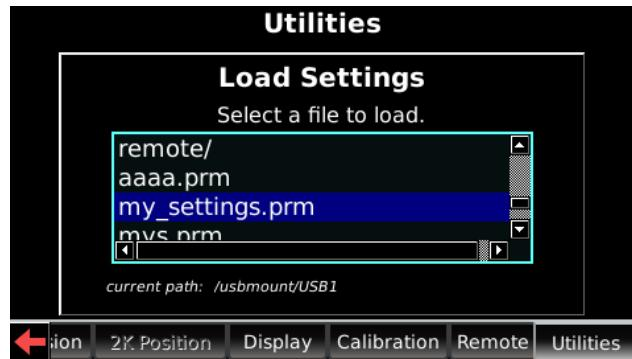

Figure 2-57 System/Utilities/Load Settings>Select a File to Load
2. Press **ENTER** to display the files on the USB device, use the arrow keys to select the settings file (see Figure 2-57), then press **ENTER** again to load the settings.